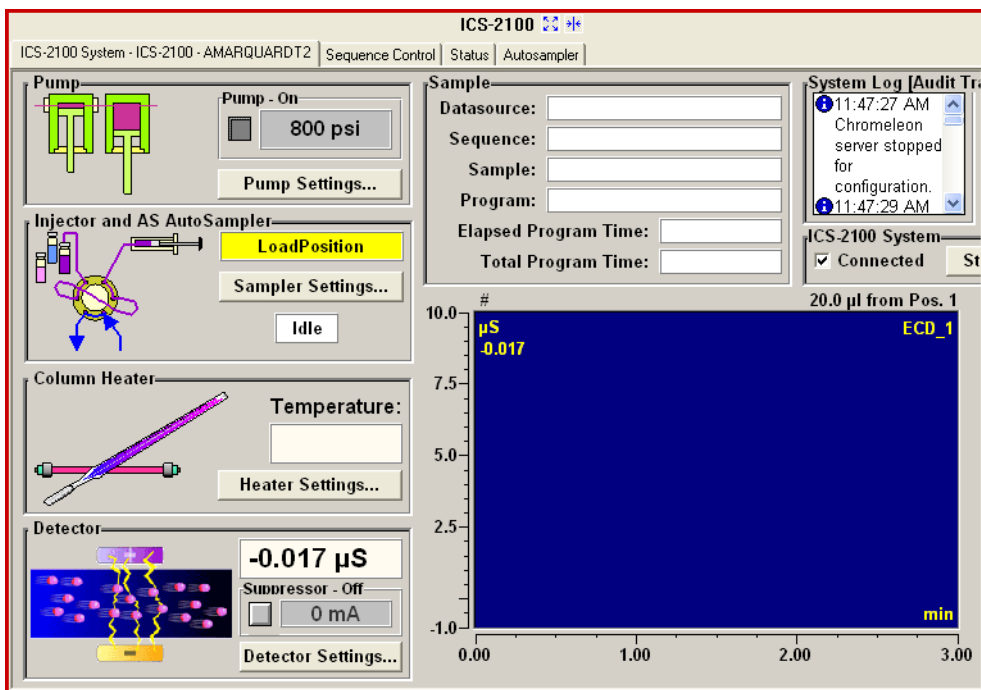

Figure 24. IC System Panel on the Chromeleon Panel Tabset
3. Click the **ICS-2100** tab on the panel tabset to view the IC system panel (see Figure 24).